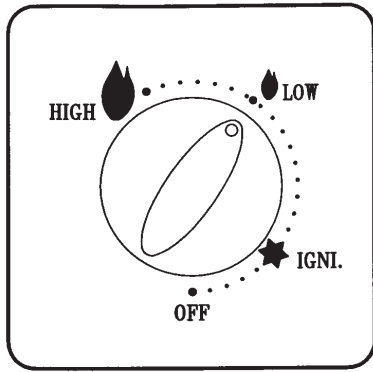

Fig.4
7. To turn off the main burner, turn the control knob in a clockwise direction to low flame. (see fig. 4)